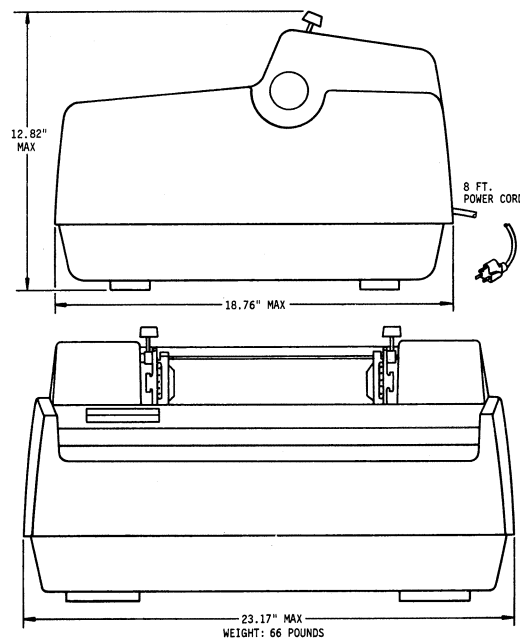

Figure 2-1. PRINTER DIMENSIONS
2.1 SITE PREPARATION (Figure 2-1)
A line drawing of the printer dimensions is shown in Figure 2-1.